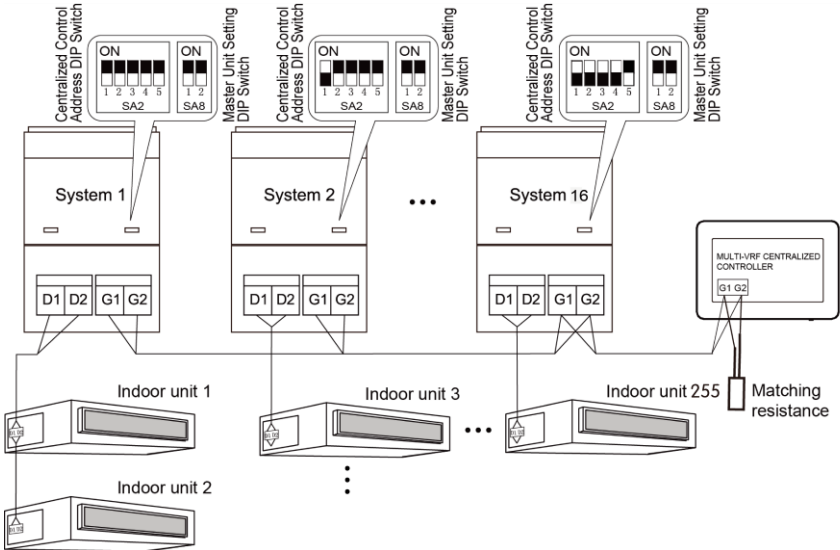

Fig.3.5 Centralized Controller Connected with Outdoor Network
c. If the centralized controller is to be connected with the network of outdoor units, connect according to fig.3.5. The centralized controller can only be connected with the terminal system of the outdoor network. A matching resistance needs to be added with the communication cords at the G1 and G2 ports.